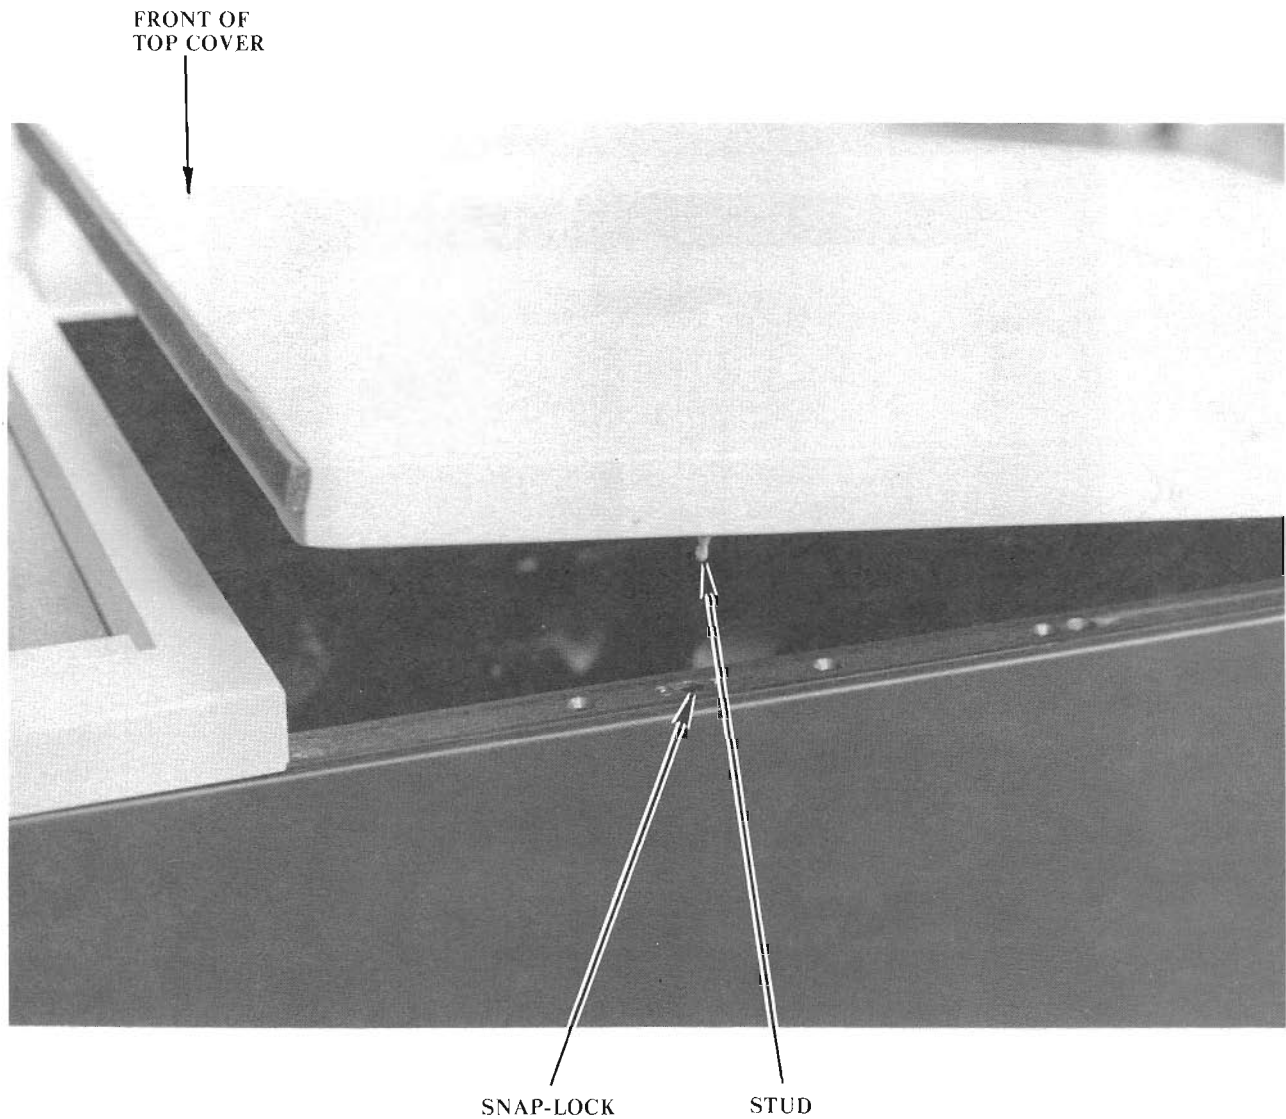

FIGURE 11-4 TOP COVER SNAP-LOCKS
2. Lift the top cover out of the two snap locks (ref: FIGURE 11-4) and off the unit.